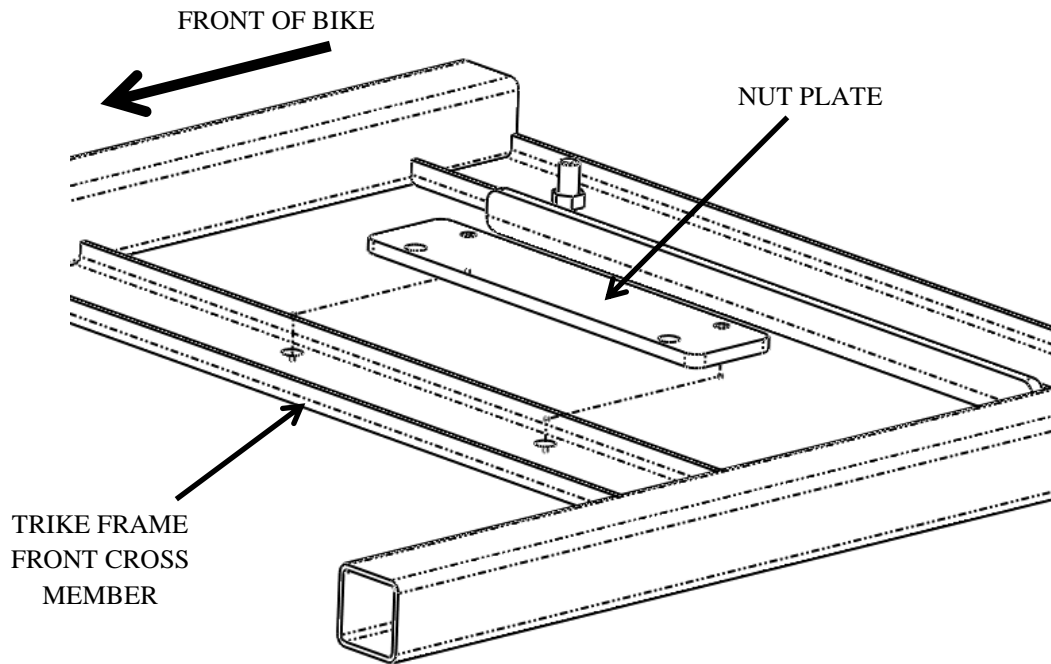

Figure 4: Slip one of the nut plates in the position described
3. Install one of the two nut plates inside the U-shaped front cross member of the trike frame. The nut plate will slip between the cross member and the trunk floor. Be sure to line up the threaded holes in the nut plate with the through holes in the cross member. This requires you to check the orientation of the nut plate before sliding it into the cross member. See Figure 4 below.